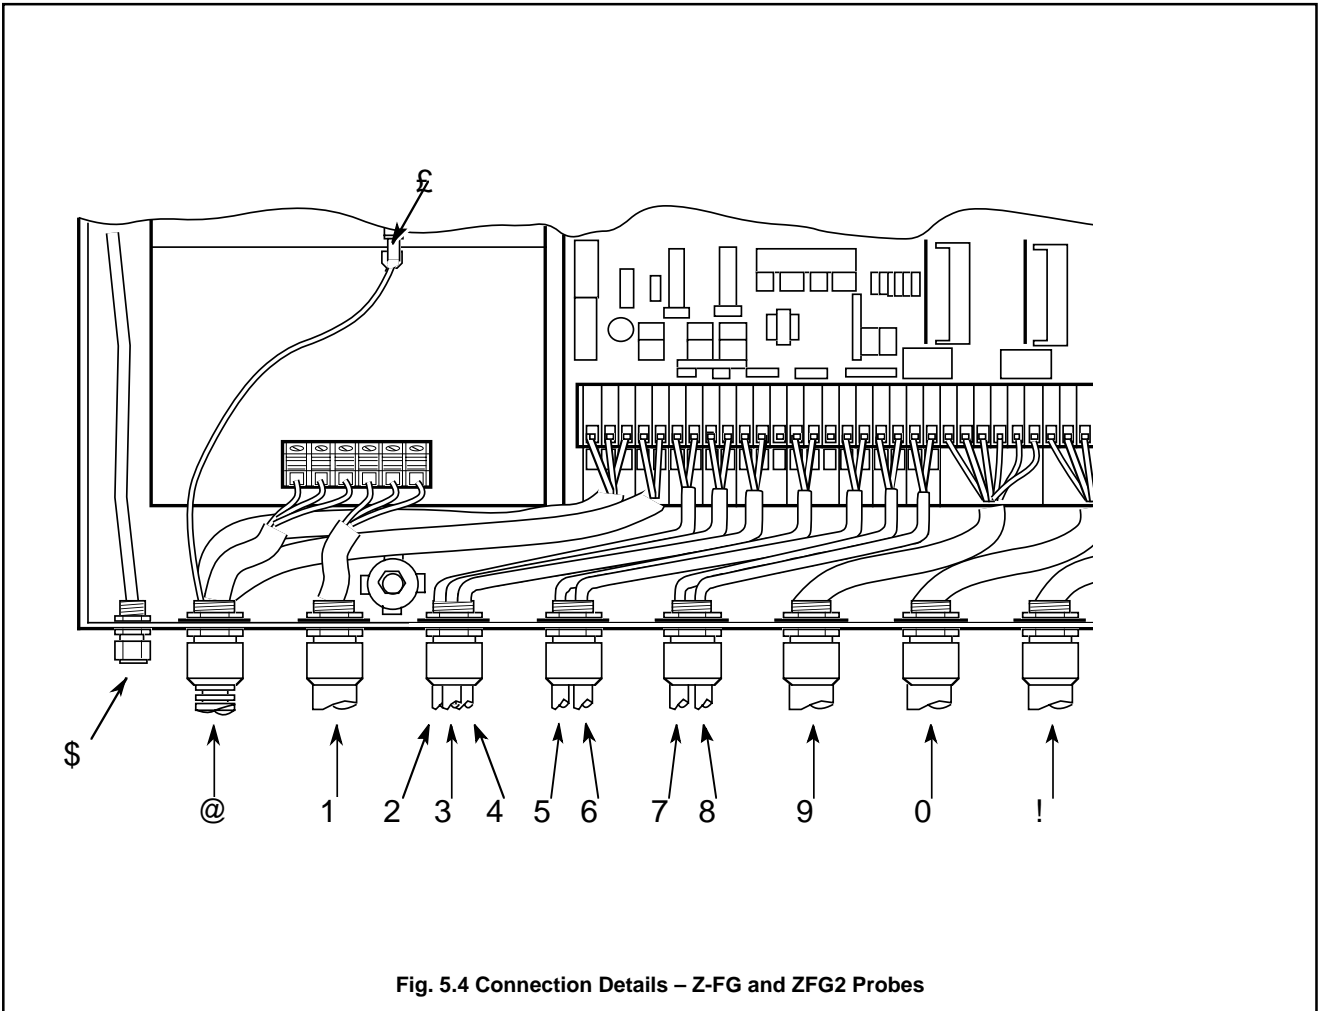

Fig. 5.4 Connection Details – Z-FG and ZFG2 Probes
5.3.1 Z-FG and ZFG2 Probes – Fig. 5.4
Fit suitable cable glands into the entries to be used (see Table 5.2 on previous page and Fig. 5.4) and blank-off any unused entries using the bungs supplied.